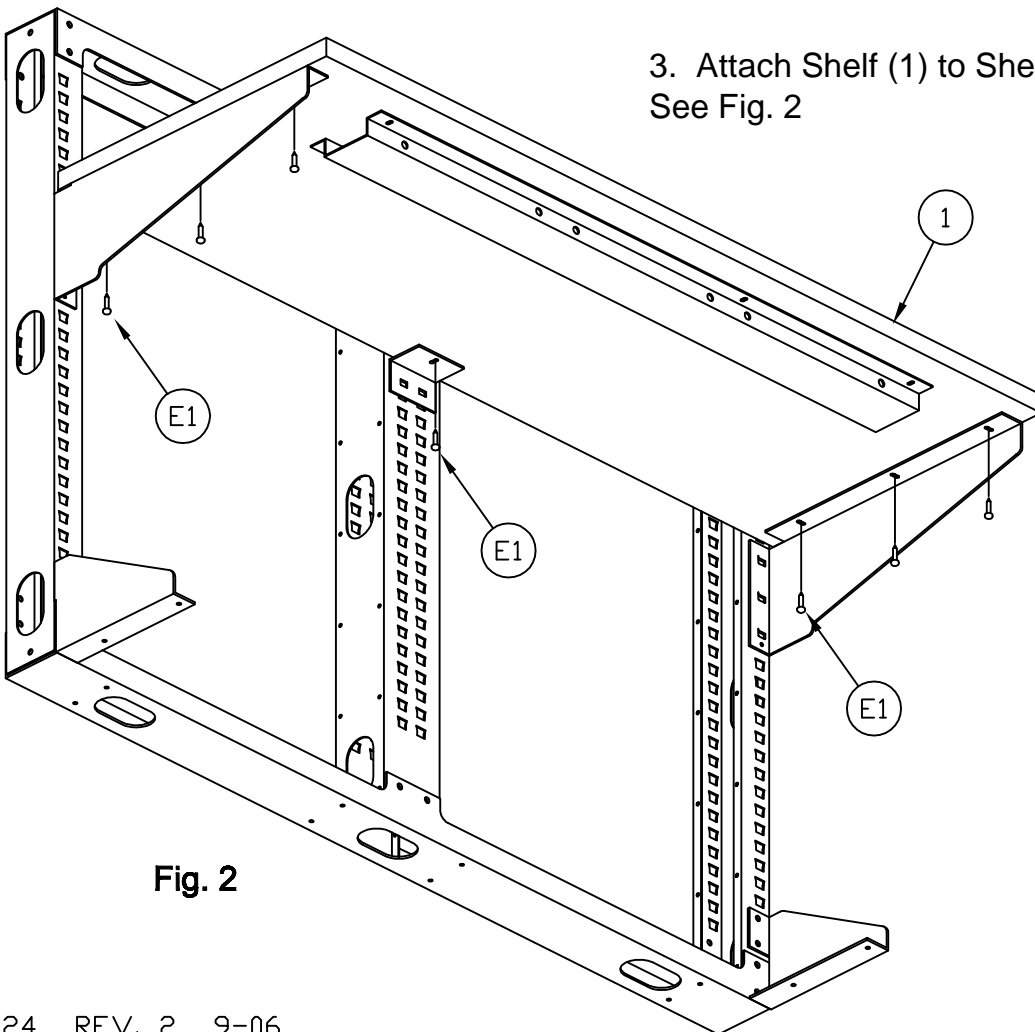

Fig. 2
3. Attach Shelf (1) to Shelf Supports using Screws (E1). See Fig. 2